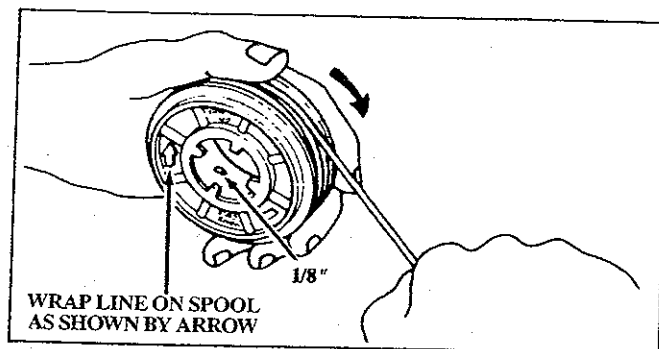

Figure 22
- 4.) Wrap the line evenly onto spool in a clockwise direction as shown by arrow on spool. Figure 22.